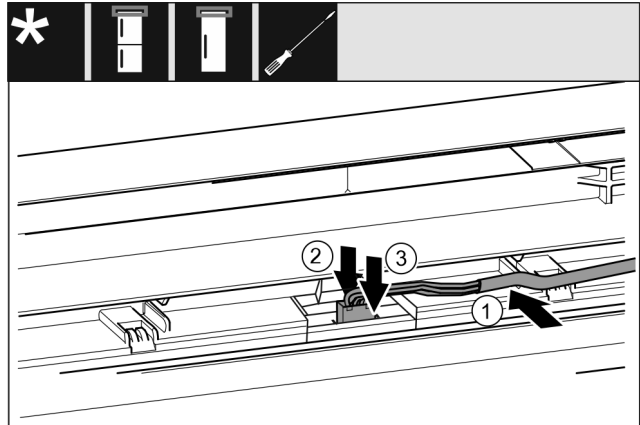

Fig. 63 Fridge/freezer combinations / freezers / refrigerators*
- ▶ Insert the cable Fig. 63 (1) into the guide in the top door.*
- ▶ Push the latching tab Fig. 63 (2) backwards.*
- ▶ Engage the plug Fig. 63 (3)*.